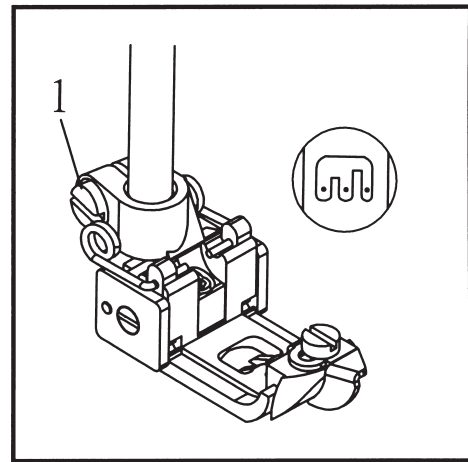

Fig.12
1. 除針線控制鈕可調整上飾線之張力外，上飾線過線桿①亦可調整上飾線之鬆緊(圖 11)，鬆開固定螺絲②，將上飾線線桿下移，可將上飾線放鬆，反之，則可將上飾線收緊。
The tension of top cover thread also can be adjusted by loosening screw② then moving Top Cover Thread Eyelet① upward or downward. (Fig.12)
After adjusting, tighten screw①. (Fig.12)